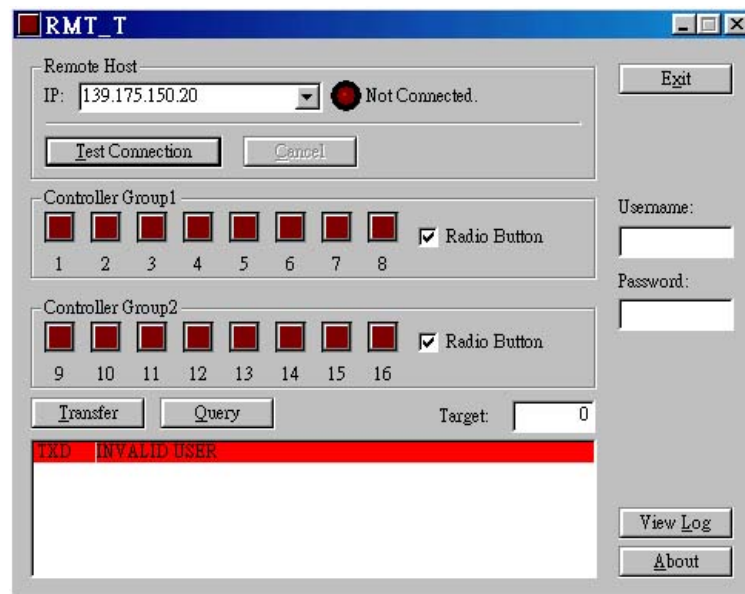

Fig. 13
- (4) If the IP of the office is “139.175.150.20” and the IP of BOSS home is “203.66.88.89”, you enter “139.175.150.20” to the IP of “Remote Host” then press “Test Connection”, you will see “INVALID USER” as Fig. 13 shows:
When you see the picture of Fig. 13, it means the connection is OK but the user name is incorrect. (If you don't see the picture, it means the connection is fail.)